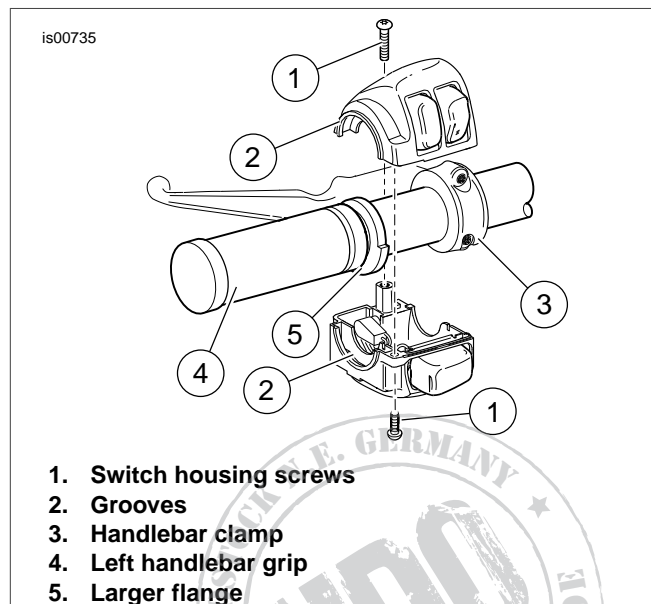

Figure 1. Left Handlebar Switch Housing
1. See Figure 1. Remove the two screws with flat washers securing the handlebar clamp (3) to the clutch lever bracket. Remove the clamp and position the clutch hand lever assembly away from the handlebar.
2. Loosen, but do not remove, the upper and lower switch housing screws (1).